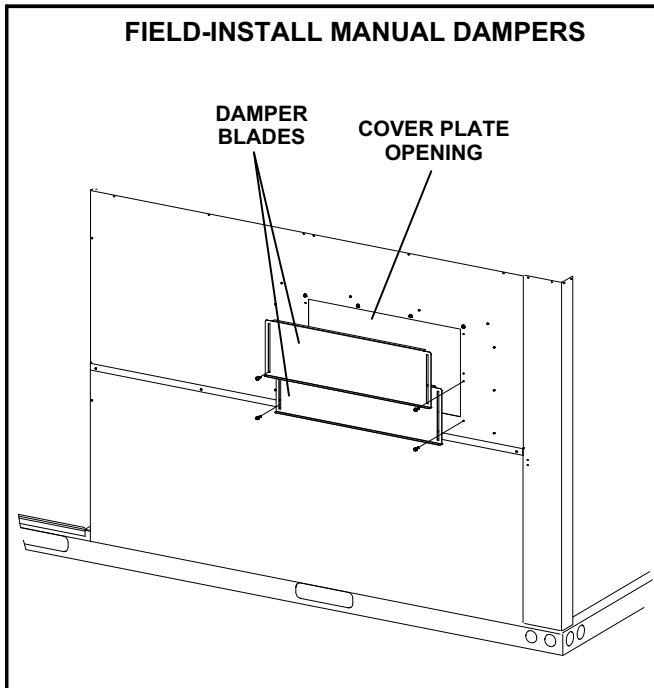

FIGURE 8
- 4- *Field-Installed Dampers* - Install the two damper blades over the cover plate opening. Secure using four provided screws. See figure 8.